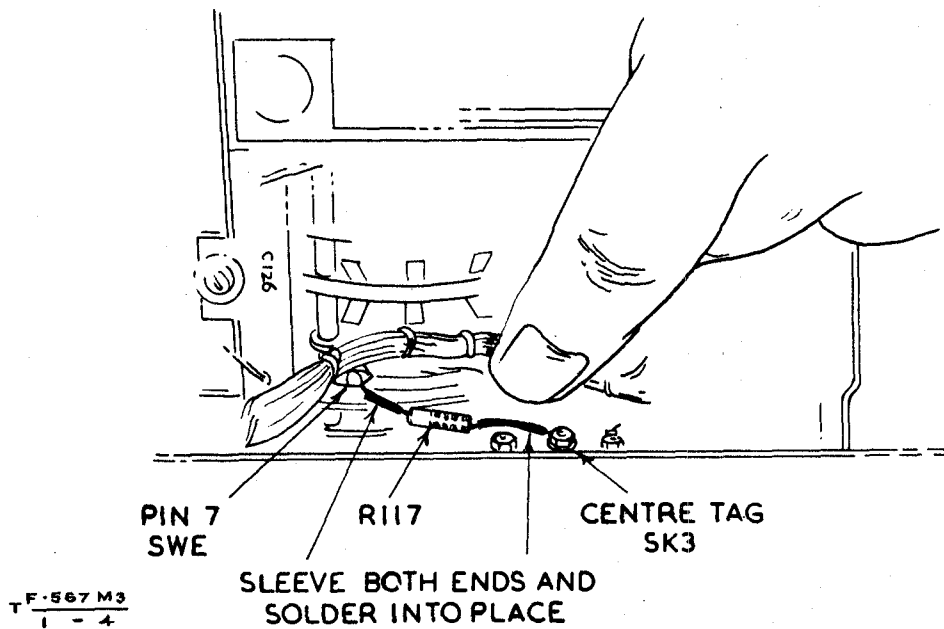

Fig 4 - Resistor R117 in position
- (f) Referring to Fig 4, locate and remove the lead which joins the centre tag of the 3-point key socket SK3 to pin 7 of the switch SWE. Solder the resistor (220k Ω , Z/Z 223079) supplied, between the same two points ie so that it takes the place of the lead removed. The new resistor becomes R117.